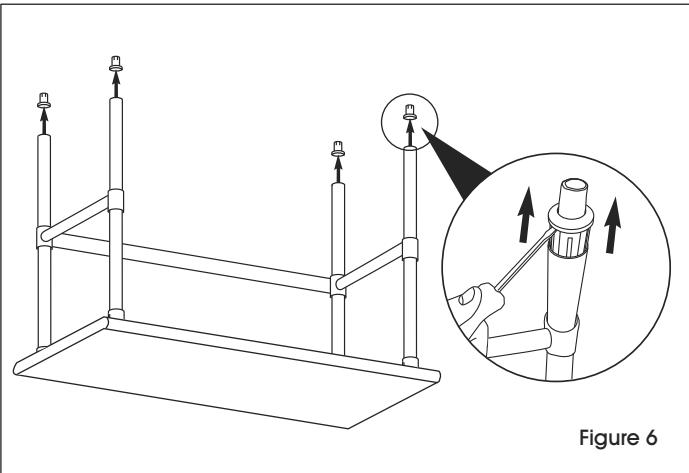

Figure 6
1. Flip the table back over onto a smooth, non-marring surface. Remove adjustable feet from legs using a flat head screwdriver. (See Figure 6)